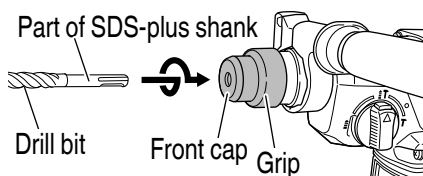
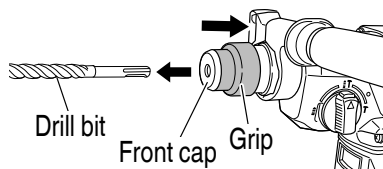

Fig. 11
Fig. 12
- (1) Turn the grip of the side handle to loosen it and push it in until it comes in contact with the gear cover.
- (2) Adjust the side handle to the angle that allows the easiest use, then turn the side handle's grip firmly to lock it place.
3. Mounting the drill bit (**Fig. 11, Fig. 12**)
- (1) Clean the shank portion of the drill bit.
- (2) Insert the drill bit in a twisting manner into the tool holder until it latches itself. (**Fig. 11**)
- (3) Check the latching by pulling on the drill bit.
- (4) To remove the drill bit, fully pull the grip in the direction of the arrow and pull out the drill bit. (**Fig. 12**)